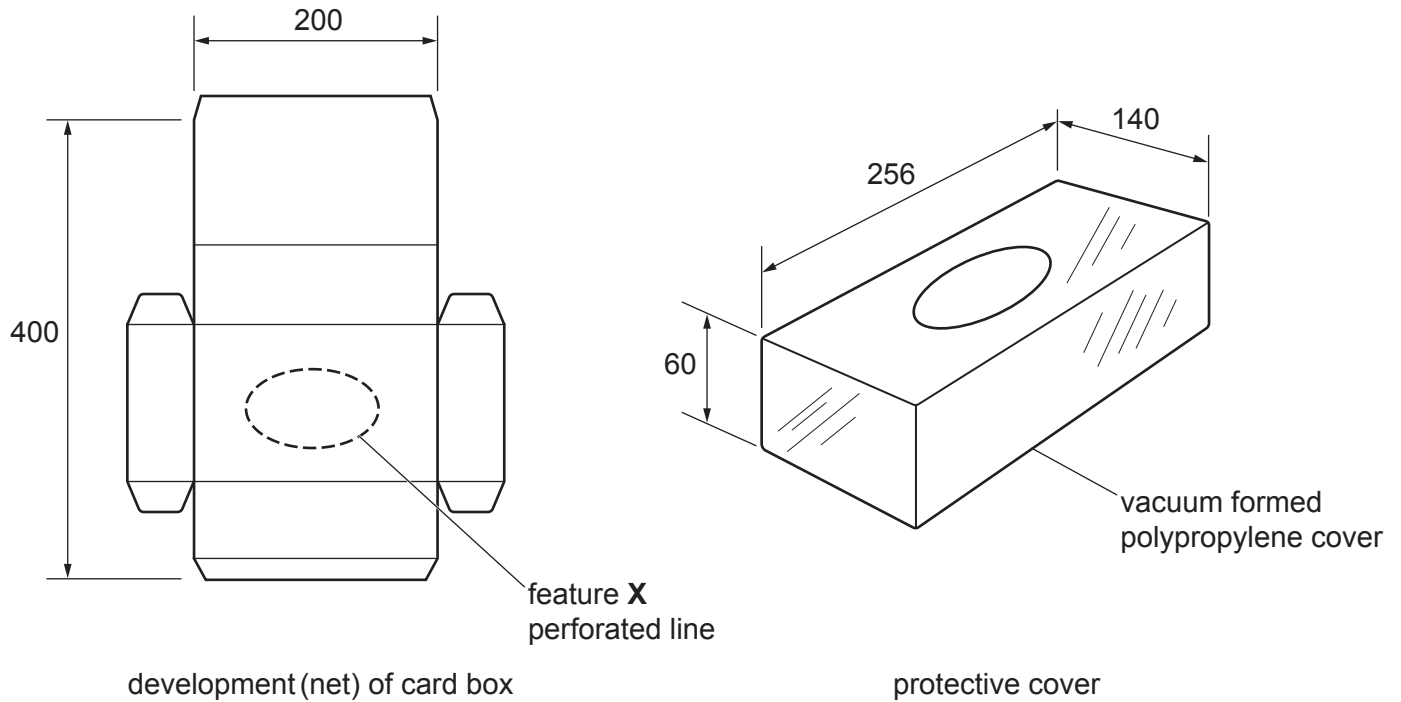

Fig. 5.1
- 5 Fig. 5.1 shows a development (net) of an incomplete design for a box of tissues and a protective cover. The protective cover fits over the assembled box.